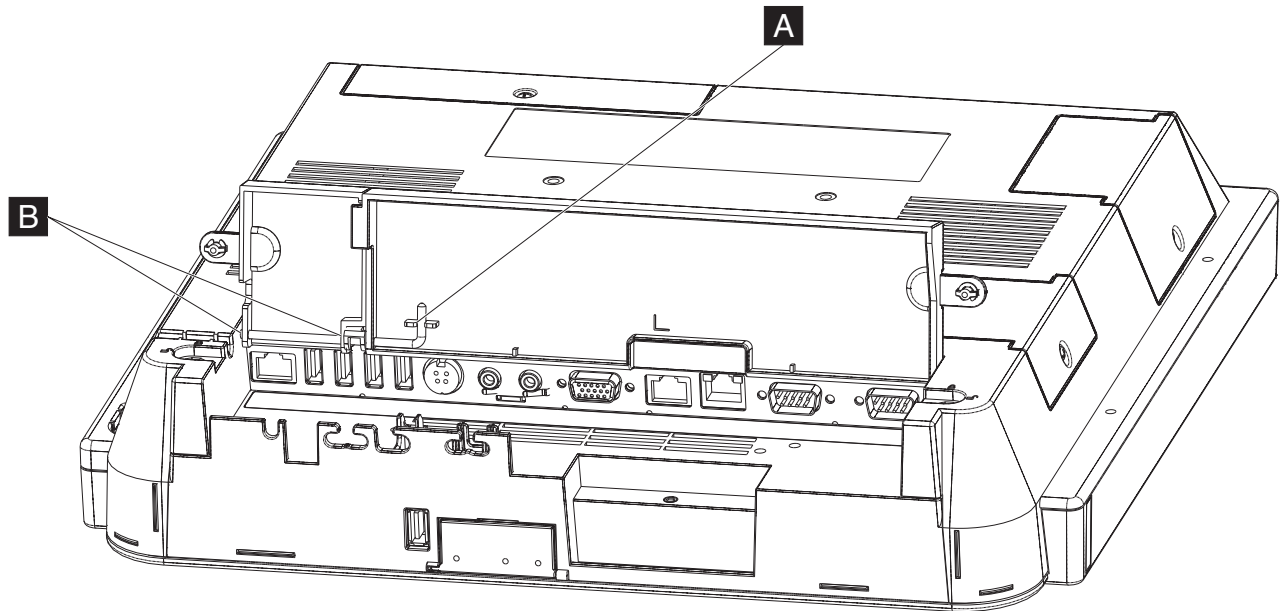

Figure 25. Removing the hinge pin
2. Remove the hinge pin (**A** in Figure 25) that holds both the MSR/USB cover and the main cable cover by rotating it downward, then sliding it to the right.